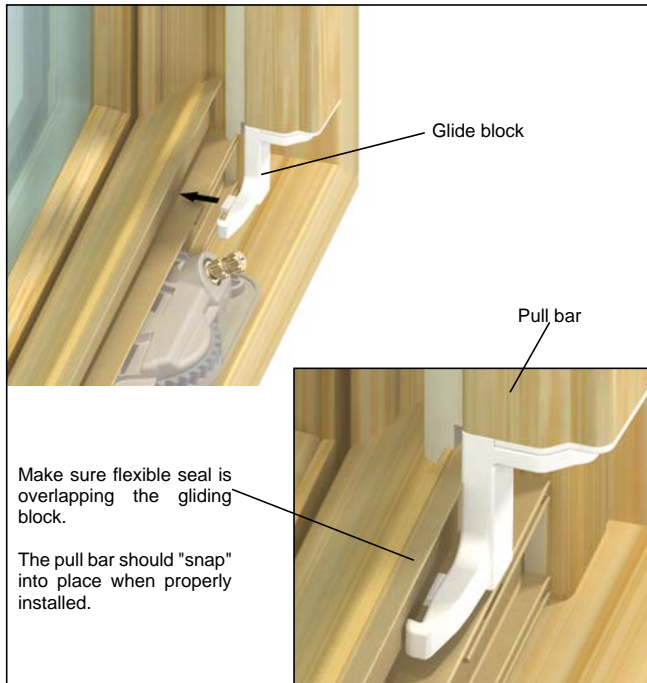

Figure 7
7. Insert the trailing edge of both glide blocks into the open pockets in the track and push the pull bar into its retracted position. Now, extend the screen mesh across the window. Retract the screen back to the housing. See figure 7.